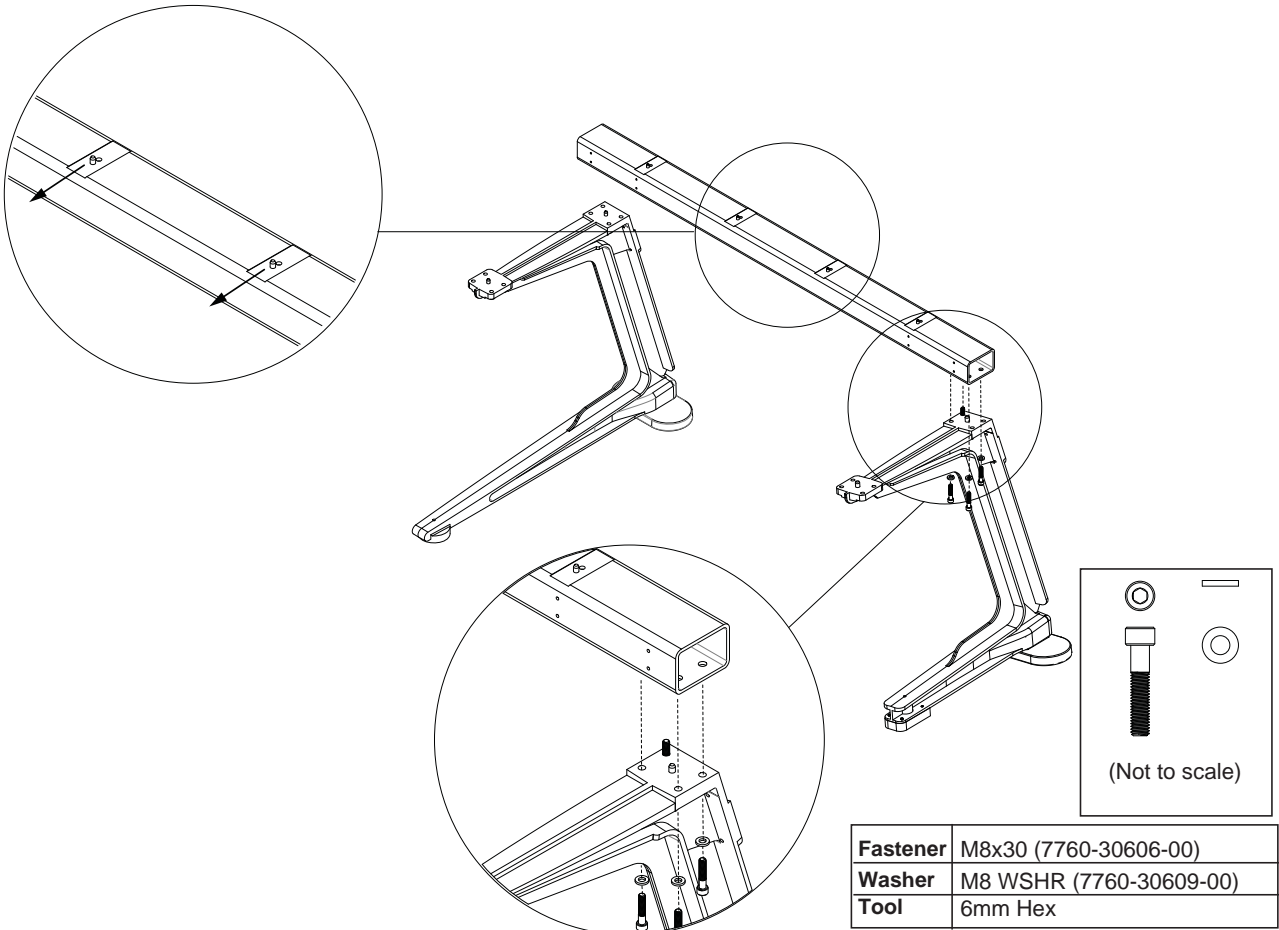

Figure 3. Attaching the back Beam to the Legs for the left frame (orientation of top pins shown at upper left)
1 Place one of the Beams on the floor to determine how far apart the Legs need to be. Make sure you have the standard and center Legs in the correct position depending on whether you are assembling the left or right frame (Figure 3 shows Leg and Beam orientation for the left frame).
- 2 Attach the back Beam by doing the following (see Figure 3):